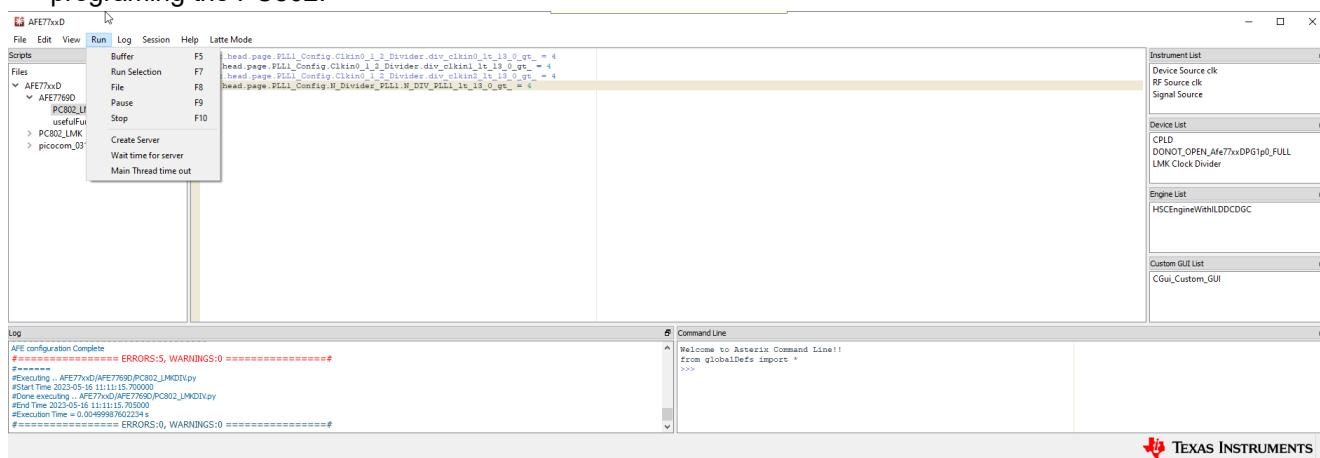

Figure 3-7. Running the PC802 Script
5. Run the script by pressing F5 or by clicking Run > Buffer. You should see an output in the log window like that shown in Figure 3-7 signaling the script was run with no errors. After running this script, the LMK_LOCKED LED (D11) turns on if the 122.88 MHz reference from the PC802 is connected after programming the PC802.